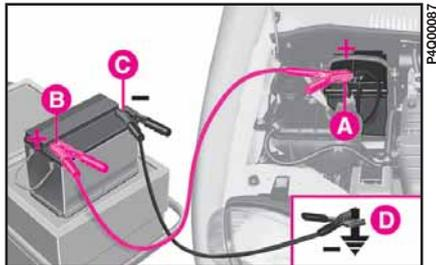

fig. 1
1) connect positive terminals **A** and **B**-fig. 1 of the two batteries with a jump lead.